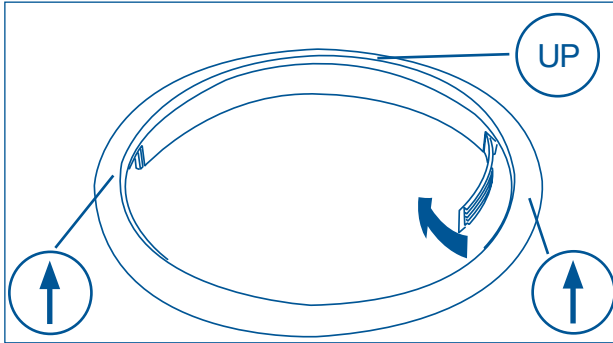

Figure 2-36.
2. Remove the trim ring cover plate. To remove the cover plate from the right, pivot point is up. To remove the cover plate from the left, pivot point is down. (See Figure 2-36)